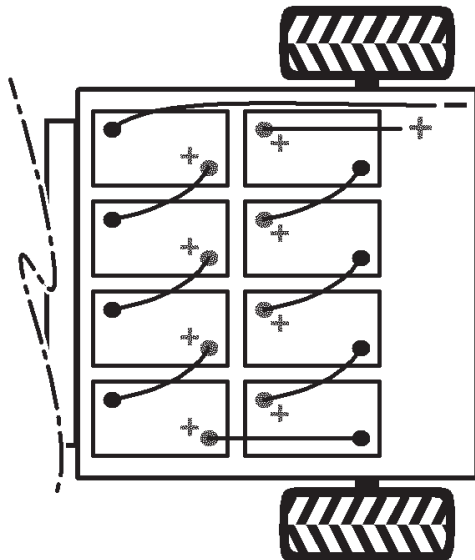

Figure 21
2. Disconnect the long, black, main negative lead running from the bank of batteries to the vehicle from the battery post (Fig. 21).
3. Remove the long, red, main positive lead running from the bank of batteries to the vehicle from the battery post (Fig. 21).
Note: Pay attention to the battery polarity when installing the new batteries (Fig. 21).
9. Connect the batteries together with the battery cables removed previously, as illustrated in Figure 21.
10. Connect the long, red, main positive lead between the bank of batteries and the vehicle (Fig. 21).
11. Connect the long, black, main negative lead between the bank of batteries and the vehicle (Fig. 21).